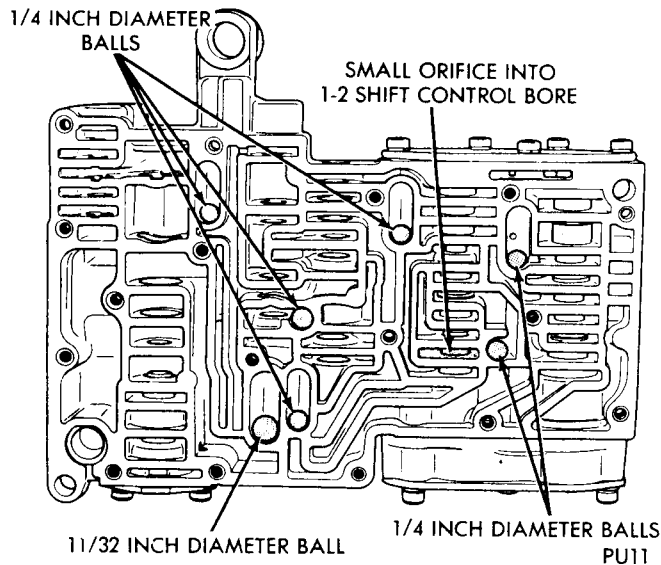

Fig. 5—Steel Ball Locations
(11) Remove the seven balls from valve body as shown in Figure 5.
Make sure orifice referred to in (Fig. 5) is open by inserting a 1/32 inch diameter drill through it into the 1-2 shift control valve bore.